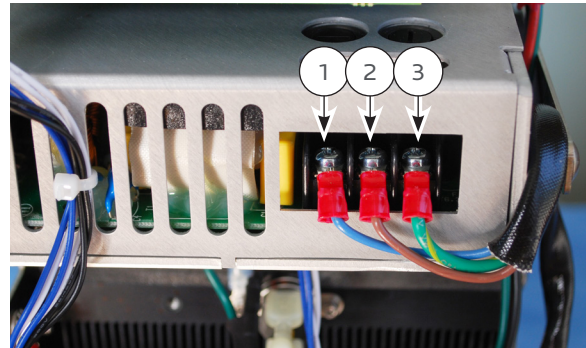

Figure 119 - Step 1 Connect power supply wires from power inlet
1. Connect the power supply to the three wires that come from the power inlet (Figure 119).